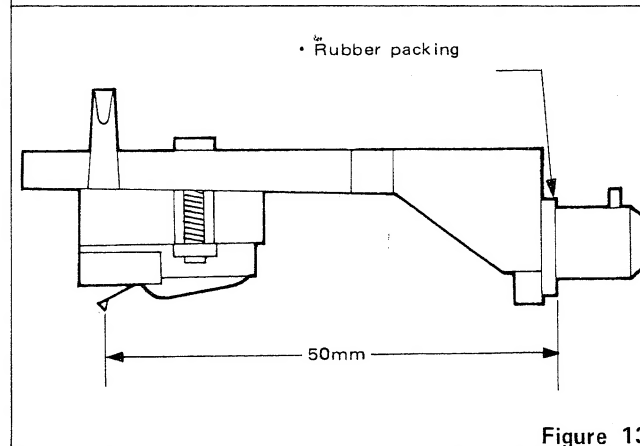

Figure 13
- ① Left hot tip (White)
- ② Left earth (Blue)
- ③ Right hot tip (Red)
- ④ Right earth (Green)
3. Make the distance 50 mm from the stylus end to the rubber packing on the head-shell. (Refer to figure 13)